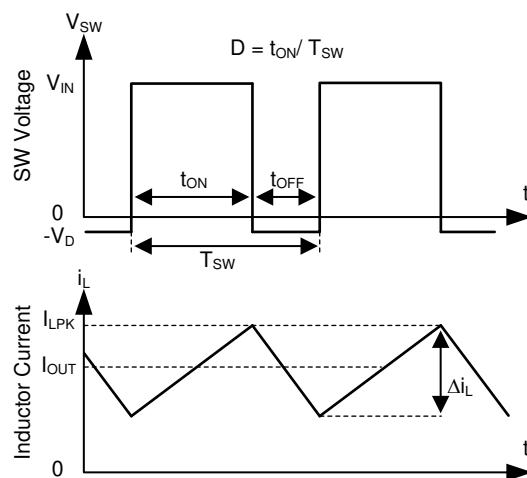
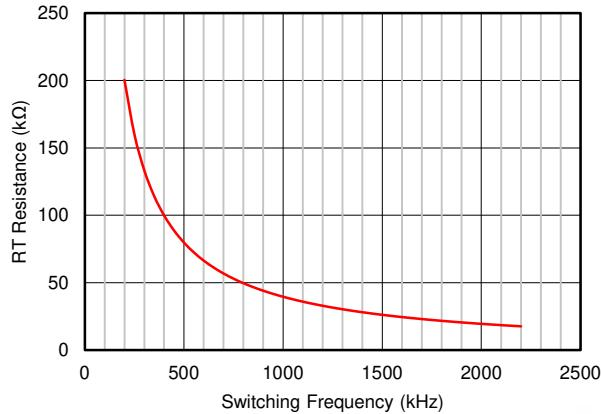

图 8-1. SW Node and Inductor Current Waveforms in Continuous Conduction Mode (CCM)
图 8-2. RT vs Frequency Curve
The following operating description of the LMR23630 refers to 图 8.2 and to the waveforms in 图 8-1. The LMR23630 is a step-down synchronous buck regulator with integrated high-side (HS) and low-side (LS) switches (synchronous rectifier). The LMR23630 supplies a regulated output voltage by turning on the HS and LS NMOS switches with controlled duty cycle. During high-side switch ON-time, the SW pin voltage swings up to approximately V_{IN} , and the inductor current i_L increase with linear slope $(V_{IN} - V_{OUT}) / L$. When the HS switch is turned off by the control logic, the LS switch is turned on after an anti-shoot-through dead time. Inductor current discharges through the LS switch with a slope of $-V_{OUT} / L$. The control parameter of a buck converter is defined as duty cycle $D = t_{ON} / T_{SW}$, where t_{ON} is the high-side switch ON-time and T_{SW} is the switching period. The regulator control loop maintains a constant output voltage by adjusting the duty cycle D. In an ideal buck converter, where losses are ignored, D is proportional to the output voltage and inversely proportional to the input voltage: $D = V_{OUT} / V_{IN}$.